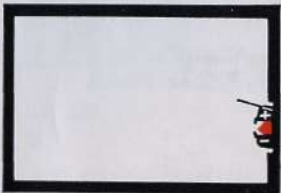

Fig. 18
- (2) When an ASA setting is used in conjunction with speeds and/or apertures which are beyond the range of the TTL meter a red signal will appear in the exposure zone of the viewfinder (Fig. 18). When the red signal appears it indicates that a flash unit should be used to supplement existing light.